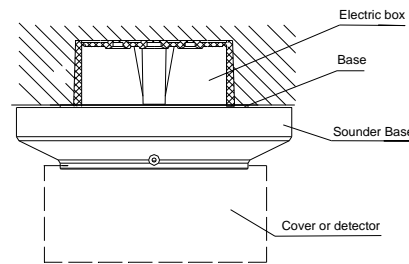

Fig. 2 Mounting of Sounder Base
- 2 Mounting of the sounder base is shown in Fig. 2.